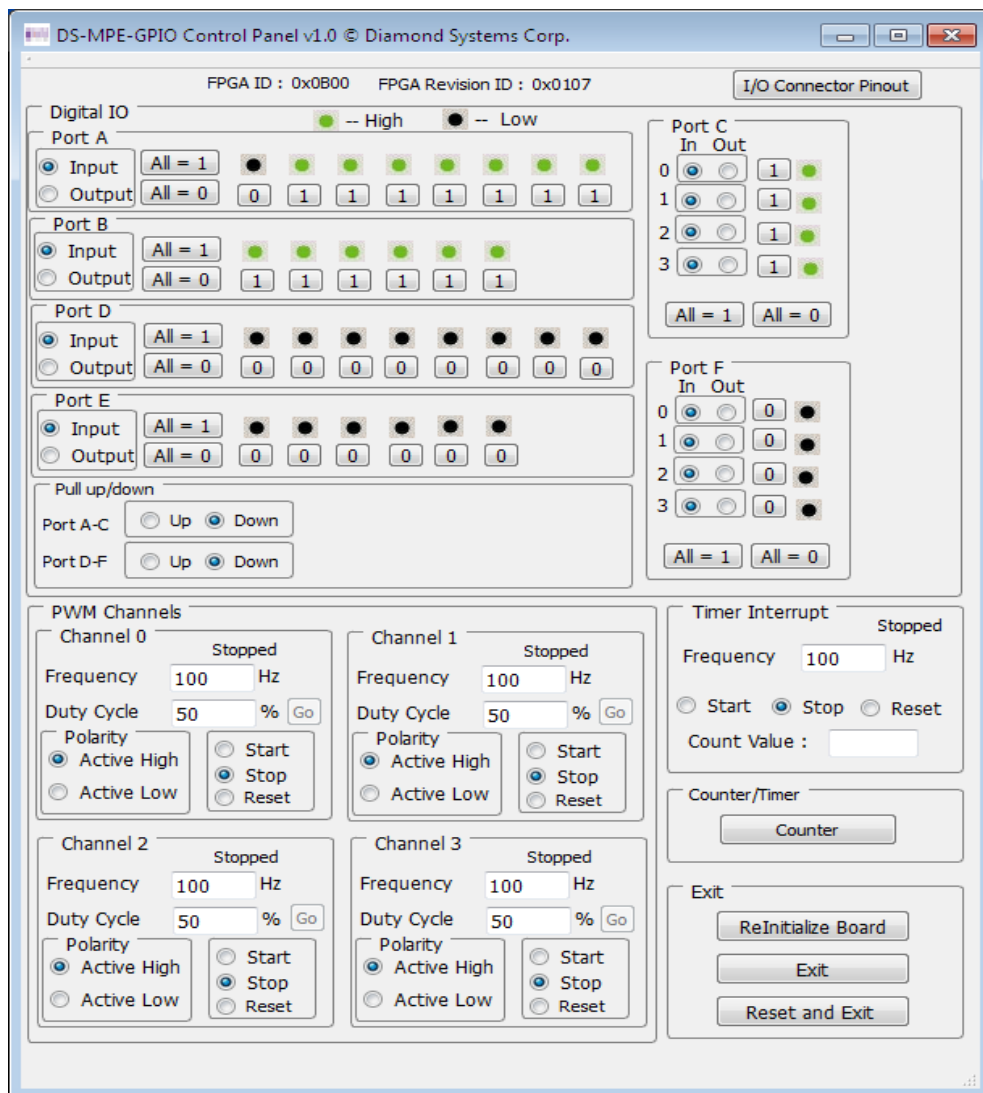

Figure 1: DS-MPE-GPIO Control Panel Main Window
- The main window of the control panel software for DS-MPE-GPIO is shown below in Figure 1.